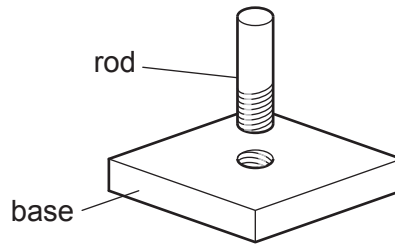

Fig. 9.1
- 9 Fig. 9.1 shows a mild steel rod that will be joined to a mild steel base by means of a screw thread.